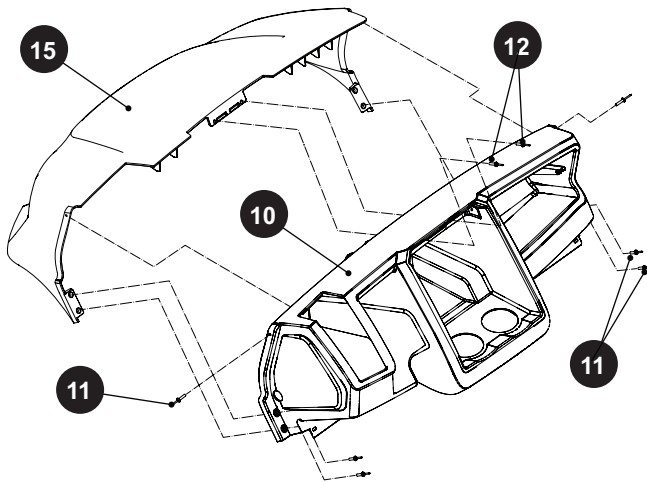

Fig. 6 Cowl Removal
2. Remove the gauge panel (5) (See Gauge Panel Replacement on page 24).
3. Drill out the upper rivets (12) connecting the cowl (15) to the instrument panel (10).
4. Drill out the remaining rivets (11).
5. Remove cowl assembly (15) from vehicle (Ref. Fig. 6).